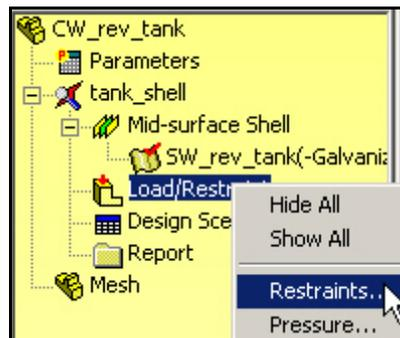
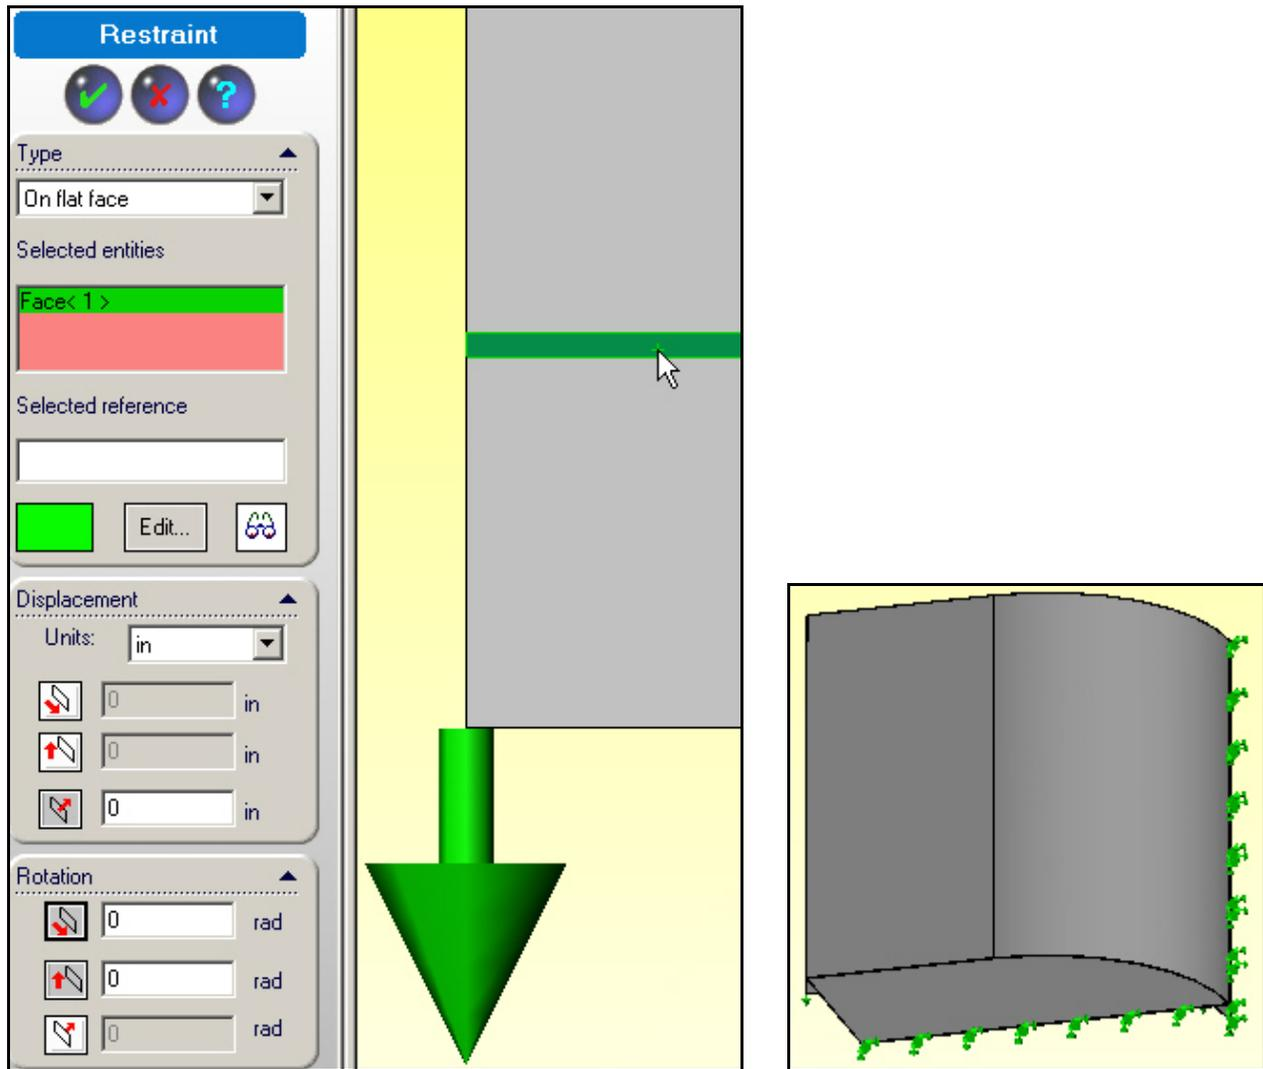

Figure 14 Activating the Restraints panel
Figure 16 Invoking front plane shell symmetry
1. Right click **Load/Restraints** → **Restraints** (Figure 14) to get the **Restraint panel**.
1. Activate the **Restraint panel** (as in Figure 14) and the **On flat face Type**. Zoom in on and pick the flat front plane surface. Set the symmetry condition of no displacement perpendicular to it. That prevents RBM to the back and RBM rotation about a vertical axis (so 1 RBM remains). Since a shell model will be invoked it, is also necessary to restrain the rotation vector tangent to that plane (i.e. its 2 components in that plane are identically zero). These steps are seen in the next **Restraint panel** of Figure 16. Note that we also get a visual check of the previous vertical support of the bottom-most face, and a graphical preview of the new displacement and rotation restraints.